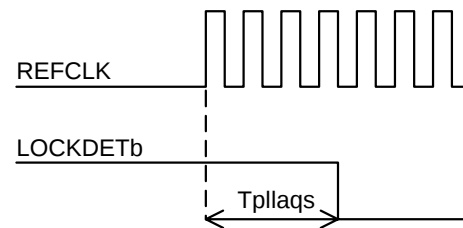

Figure 6. PLL Acquisition Timing
- 2: Please refer to Figure 6.